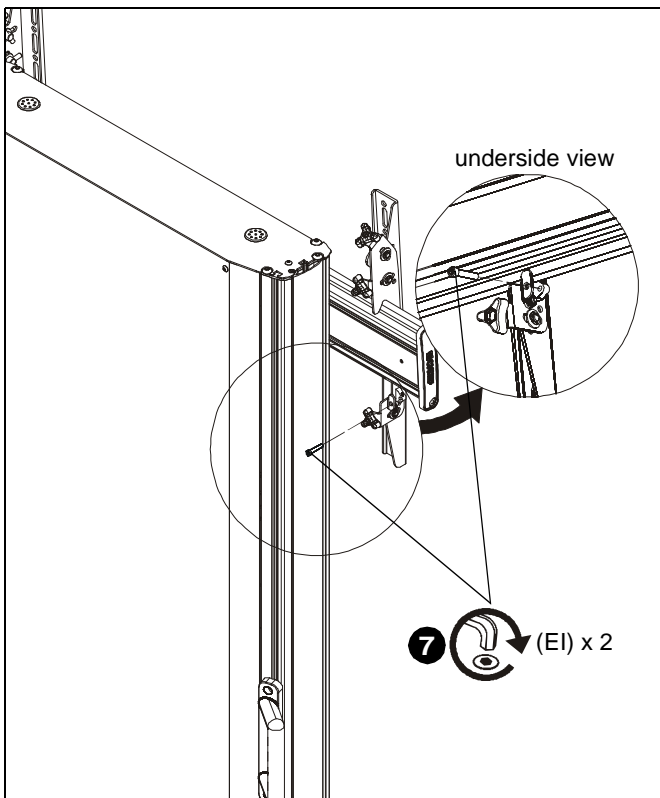

Figure 10
6. Hang interface brackets (A and B) to display rails. (See Figure 10)
7. Use 1/4-20 x 1 1/4" socket head cap screws (HI) to secure interface brackets (A and B) to rails for each display. Screws must engage through both holes to be fully secured. (See Figure 10)